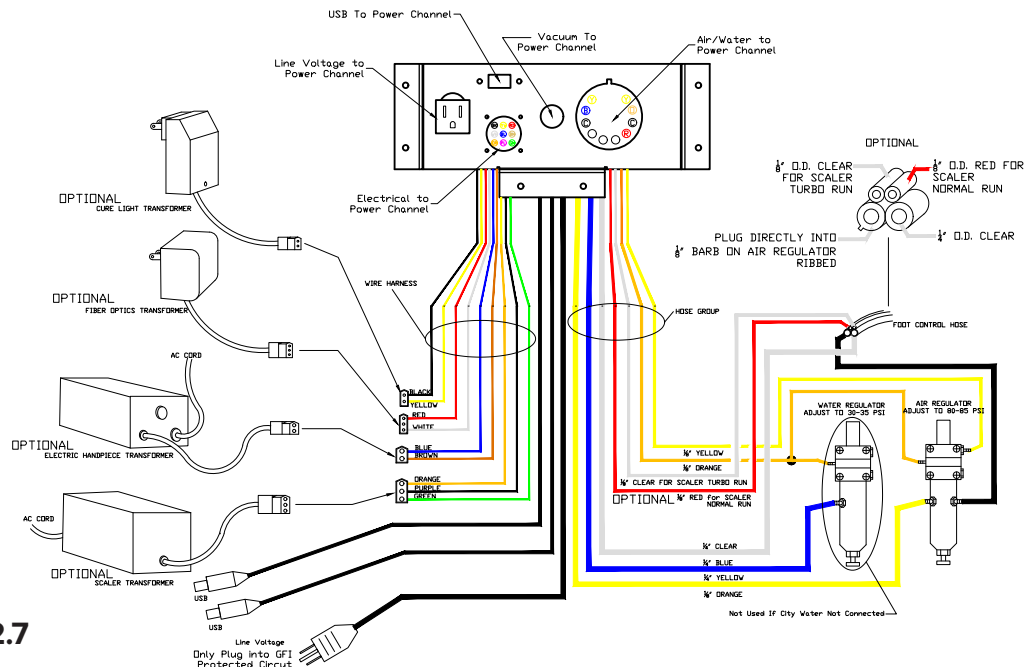

Fig 12.7
2. Please be sure to have your licensed contractor or installer follow Fig 12.7 for proper tubing and wiring connections. Wiring and tubing may differ depending on options purchased. Configuration shown is with standard options.